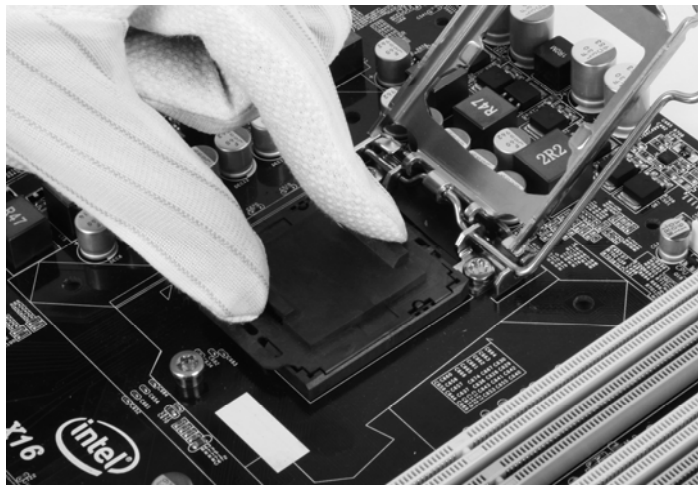

Fig 3
1.3 Uncover the contact pin protect cover, as shown in Fig.3